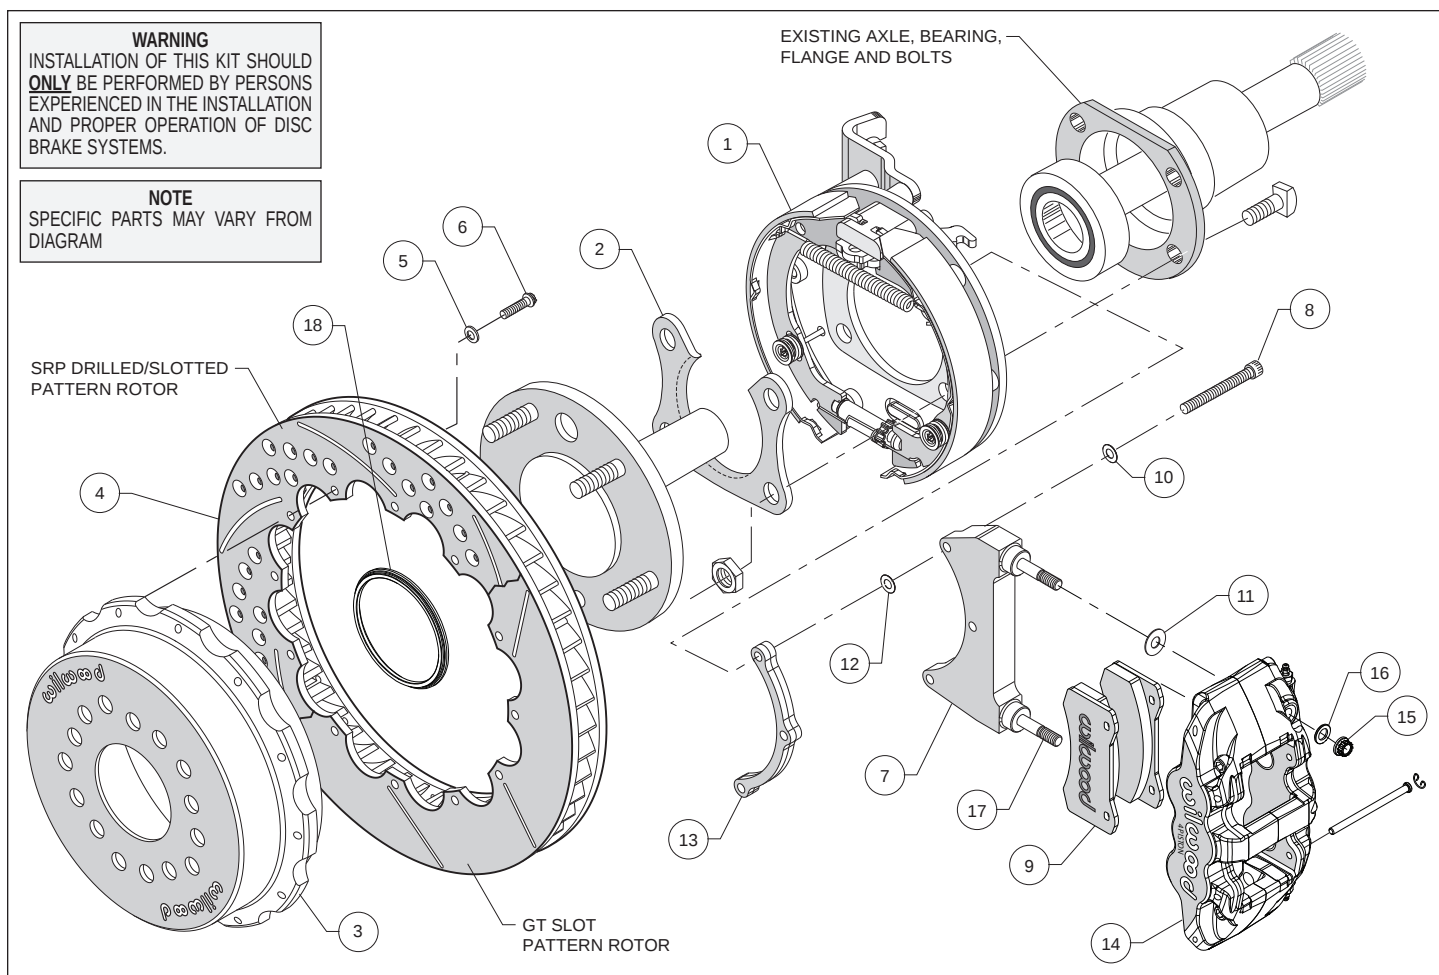

Figure 1. Typical Installation Configuration
- Orient the bracket assembly (1) as shown in Figure 1, and slide it onto the axle flange. Ensure that the bracket assembly backing plate fits flush against the housing flange. Insert the axle shaft into the axle housing.
- Install the bearing retainer (2) with the opening pointing upward and the lip facing inward (toward the bearing), as shown in Figures 1 and 4. Secure using the Original Equipment Manufacturer (OEM) bolts and nuts, Figure 1. Apply red *Loctite*® 271 to the OEM bolt threads and torque to OEM specifications.
- Slide the rotor registration adapter (18) onto the axle register on the axle flange with the smaller O.D. facing toward the rotor/hat (3). Align the correct hole pattern in the hat with the stud pattern on the axle flange. **NOTE:** Some OEM and aftermarket axles come with stud sizes larger than 0.50" diameter. Verify stud size and have a qualified machine shop drill the hats to the correct size, if necessary. Slide the hat/rotor assembly (3 and 4) over the wheel studs covering the bracket kit assembly (1) and against the axle flange face. Check to be sure the hat seats squarely against the hub. Install three lug nuts (finger tighten) to keep the rotor/hat assembly in place while continuing with the installation.
- **NOTE:** Please reference the caution statement at the beginning of the assembly instructions. The caliper mounting bracket assembly (7) should be installed first with clean, dry threads on the mounting bolts (8). Install the bracket from the rear side of the bracket kit assembly (1) by sliding bolt (8) through lock washer (9), flat washers (10 and 11) bracket (7), shim washer (12) and finally through the spacer (13), see Figure 1. **NOTE:** End of bolt should not exceed inside face of insert. The bracket must tighten squarely against the back side of the bracket kit assembly (1). Inspect for interference from casting irregularities, machining ridges, burrs, etc. Use one thin shim (12) between the bracket (7) and spacer (13) during initial trial fitting.
- Lubricate caliper mounting studs and nuts with lightweight oil. Install one shim (11) over each pre-installed stud (17) on the radial mount bracket (7). Slide the caliper (14) in place over the studs and rotor, then install the washer (16) and lock nut (15) to hold the caliper in place. The caliper bleed screws should be pointing up. Snug the lock nuts (15) and check that the rotor (4) is centered in the caliper (14). Add or subtract .015" shims (12) as necessary between the caliper mounting bracket (7) and the spacer (13) to center the caliper (14).
- Remove the two pad retaining pins from the caliper (14) by carefully popping out the pin retaining clips and sliding out the pins. Insert the brake pads (9) into the caliper from the bottom, Figure 1. With the friction material facing the rotor, secure the brake pads in place with the pad retaining pins and clips. Reinstall the caliper onto the caliper mounting bracket and temporarily tighten the lock nuts. Check that the top of the brake pad is flush with the outside diameter of the rotor. If not, adjust by adding or subtracting shims (11) between the caliper and the bracket.
- Adjust the parking brake shoes outward (using a drum shoe adjustment tool available at your local auto parts store) while spinning the hat (3) until a slight drag is felt against the hat/drum. Remove the lug nuts that were holding the hat/rotor in place. Install the wheel and lug nuts. Check to see that the wheel rotates freely without interference.
- Once all clearances have been checked, remove the wheel, caliper, hat/rotor from the bracket kit assembly (1). Secure the caliper mounting bracket (7) to the bracket kit assembly (1) using red Loctite® 271. Torque bolts (8) to 180 in-lb. Reinstall the hat/rotor assembly and again use lug nuts to hold it in place. Reinstall the caliper, torque the caliper nuts (15) to 47 ft-lb.
- **NOTE:** Clevis and cable kits which attach to the parking brake assembly are not included in the Wilwood parking brake kit. Wilwood offers a generic style parking brake cable kit, P/N 330-9371 for this application which can be ordered separately from your local Wilwood dealer or by calling Wilwood customer service at (805) 388-1188.